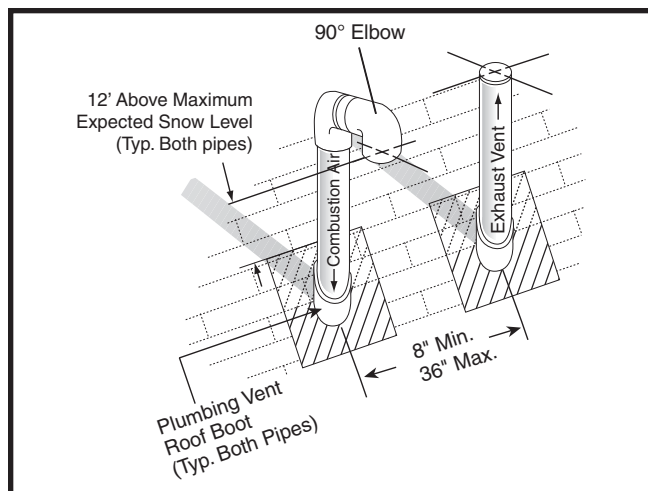

Figure 9. Vertical Vent Termination
Termination spacing requirements from the roof and from each other are shown in Figure 9 (page 13). The roof penetration must be properly flashed and waterproofed with a plumbing roof boot or equivalent flashing. Vent and combustion air piping may be installed in an existing chimney which is not in use provided that:
- The termination clearances shown in Figure 9 are maintained.